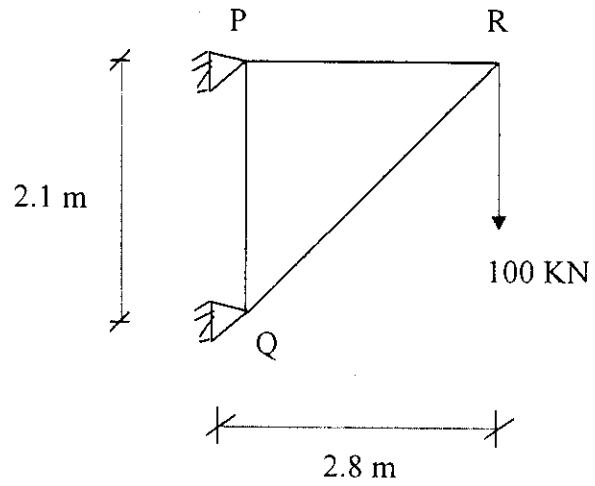

Fig. 3: Truss Problem
3. Evaluate the horizontal and vertical components of deflection of the free end R of the bracket truss as shown in Fig.3 by **Matrix Method** of analysis. Calculate also the member forces of PR & QR of the same truss. For all the truss members the cross sectional areas are 19 cm^2 ; $E = 2.1 \times 10^5 \text{ MPa}$